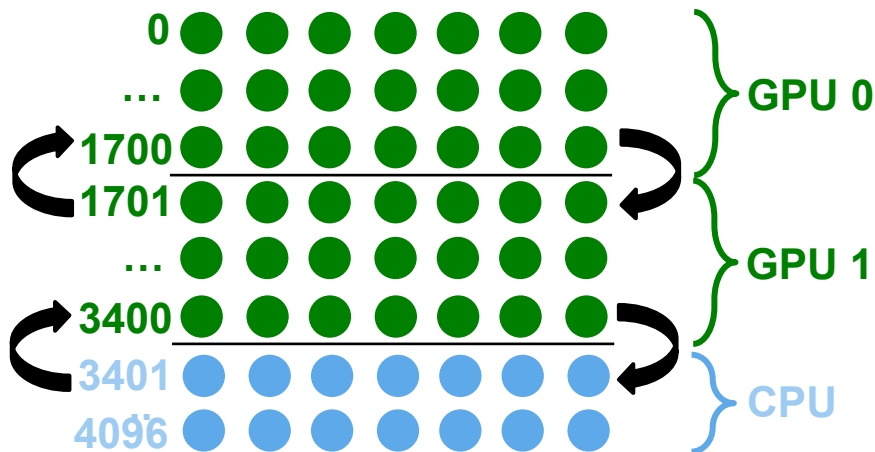

Figure 5: Work distribution between two GPUs and a 2-socket CPUs
To distribute the work, we follow the strategy described in section 2.5 *Heterogeneous Computing*. The only difference is that we now have three partitions: one on GPU 0, one on GPU 1 and one on the CPU (as shown in Figure 5).
- Before the swap loop, the halo data must be exchanged (see Figure 5) which can be done using the `update` directive. The first GPU needs to update its last matrix row, the second GPU needs to update its first and last row and the CPU needs to update its first row. Make sure that the data is synchronized.